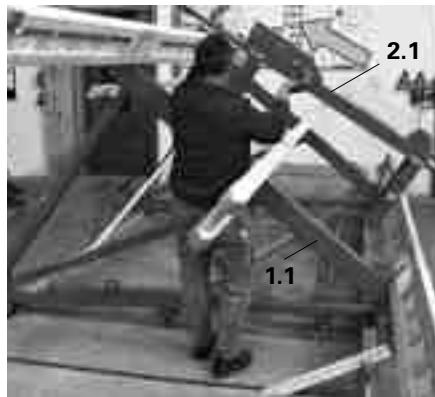

Fig. A1.19
6. Position carriage (2.1) on the bracket (1.1). (Fig. A1.19)